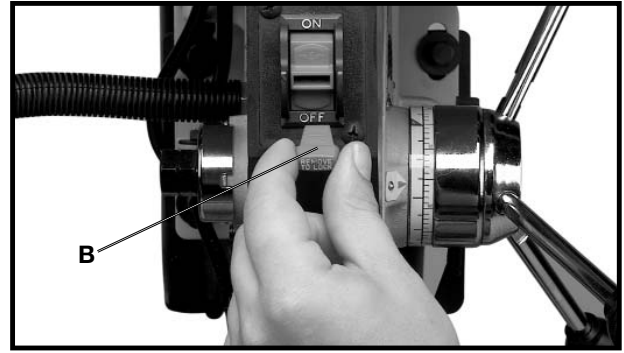

Fig. 19
IMPORTANT: When the machine is not in use, the switch should be locked in the “OFF” position to prevent unauthorized use. This can be done by grasping the switch toggle (B) and pulling it out of the switch, as shown in Fig. 19. With the switch toggle (B) removed, the switch will not operate. However, should the switch toggle be removed while the drill press is operating, the switch can be turned “OFF” once, but cannot be restarted without inserting the switch toggle (B).